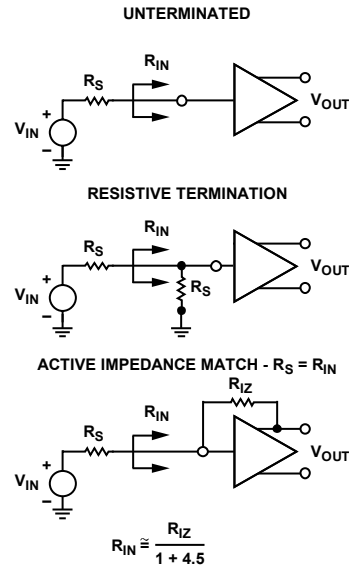
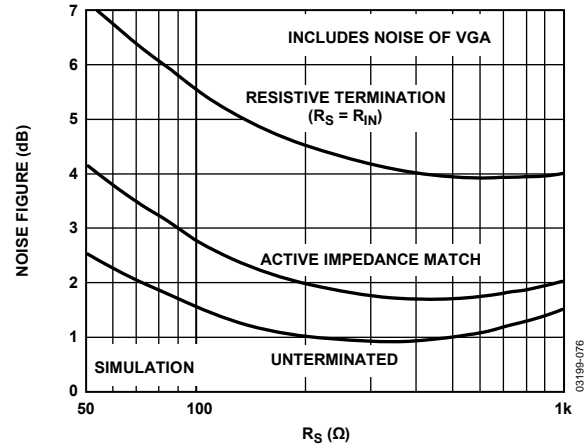
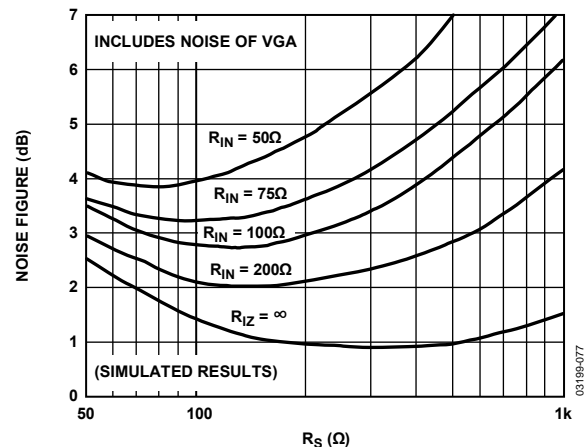

Figure 75. Input Configurations
Figure 76. Noise Figure vs.  $R_S$  for Resistive, Active Match, and Unterminated Inputs
Figure 77. Noise Figure vs.  $R_S$  for Various Fixed Values of  $R_{IN}$ , Actively Matched
The input-referred voltage noise sets an important limit on system performance. The short-circuit input voltage noise of the LNA is  $0.74\text{ nV}/\sqrt{\text{Hz}}$  or  $0.82\text{ nV}/\sqrt{\text{Hz}}$  (at maximum gain), including the VGA noise. The open-circuit current noise is  $2.5\text{ pA}/\sqrt{\text{Hz}}$ . These measurements, taken without a feedback resistor, provide the basis for calculating the input noise and noise figure performance of the configurations in Figure 75. Figure 76 and Figure 77 show simulations extracted from these results and the  $4.1\text{ dB}$  noise figure (NF) measurement with the input actively matched to a  $50\ \Omega$  source. Unterminated ( $R_{IZ} = \infty$ ) operation exhibits the lowest equivalent input noise and noise figure. Figure 76 shows the noise figure vs. source resistance, rising at low  $R_S$ , where the LNA voltage noise is large compared to the source noise, and again at high  $R_S$  due to current noise. The VGA input-referred voltage noise of  $2.7\text{ nV}/\sqrt{\text{Hz}}$  is included in all of the curves.
The primary purpose of input impedance matching is to improve the system transient response. With resistive termination, the input noise increases due to the thermal noise of the matching resistor and the increased contribution of the LNA input voltage noise generator. With active impedance matching, however, the contributions of both are smaller than they would be for resistive termination by a factor of  $1/(1 + \text{LNA Gain})$ . Figure 76 shows their relative NF performance. In this graph, the input impedance is swept with  $R_S$  to preserve the match at each point. The noise figures for a source impedance of  $50 \Omega$  are 7.1 dB, 4.1 dB, and 2.5 dB, respectively, for the resistive, active, and unterminated configurations. The noise figures for  $200 \Omega$  are 4.6 dB, 2.0 dB, and 1.0 dB, respectively.
Figure 77 is a plot of NF vs.  $R_S$  for various values of  $R_{IN}$ , which is helpful for design purposes. The plateau in the NF for actively matched inputs mitigates source impedance variations. For comparison purposes, a preamp with a gain of 19 dB and noise spectral density of  $1.0 \text{ nV}/\sqrt{\text{Hz}}$ , combined with a VGA with  $3.75 \text{ nV}/\sqrt{\text{Hz}}$ , yields a noise figure degradation of approximately 1.5 dB (for most input impedances), significantly worse than the AD8331/AD8332/AD8334 performance.